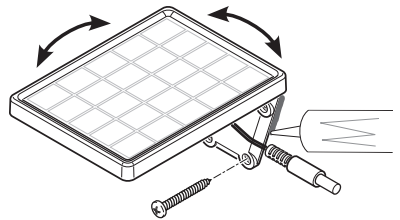

Figure 5
1. Place the solar panel against the mounting surface and mark the mounting holes (see Figure 5).
2. Rotate the solar panel to the desired angle (see Figure 5).